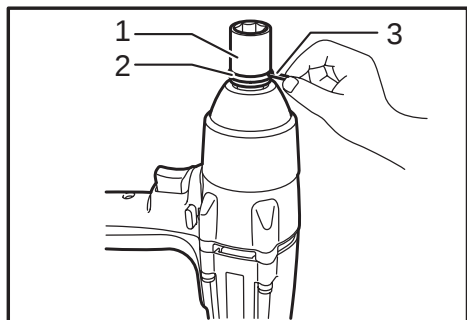

Fig.4
► Fig.4: 1. Socket 2. O-ring 3. Pin